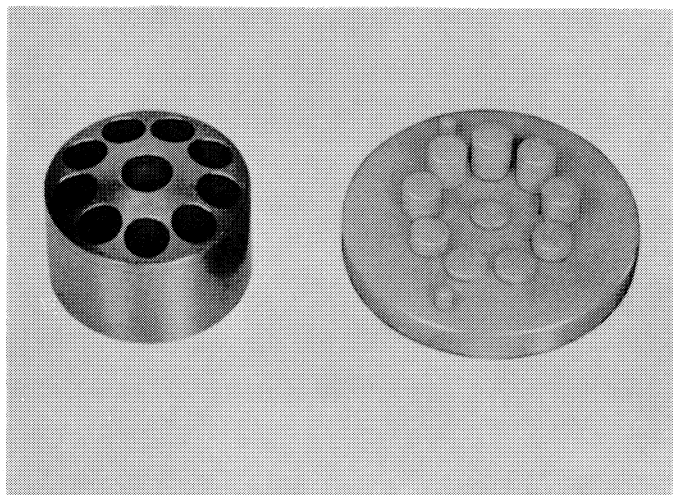

Figure 9—Driven Cylinder Block and Assembly Fixture, Tool No. N3 10776
3. Place the driven cylinder block (without spline) on the assembly fixture, Tool No. N3 10776, Figure 9, and insert the plunger spring and plunger.